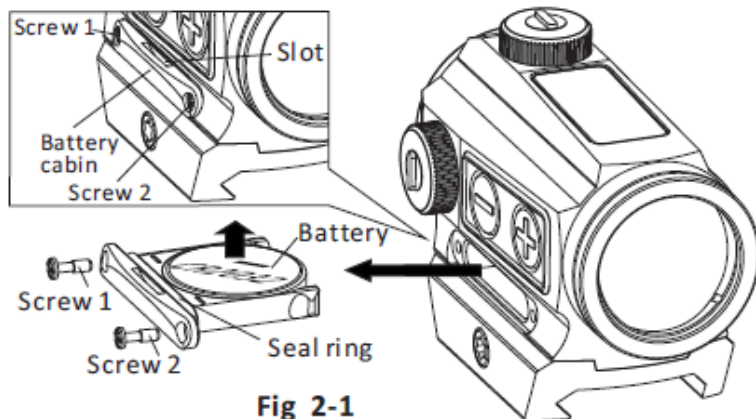

Fig 2-1
- a. Remove the battery (fig 2-1)